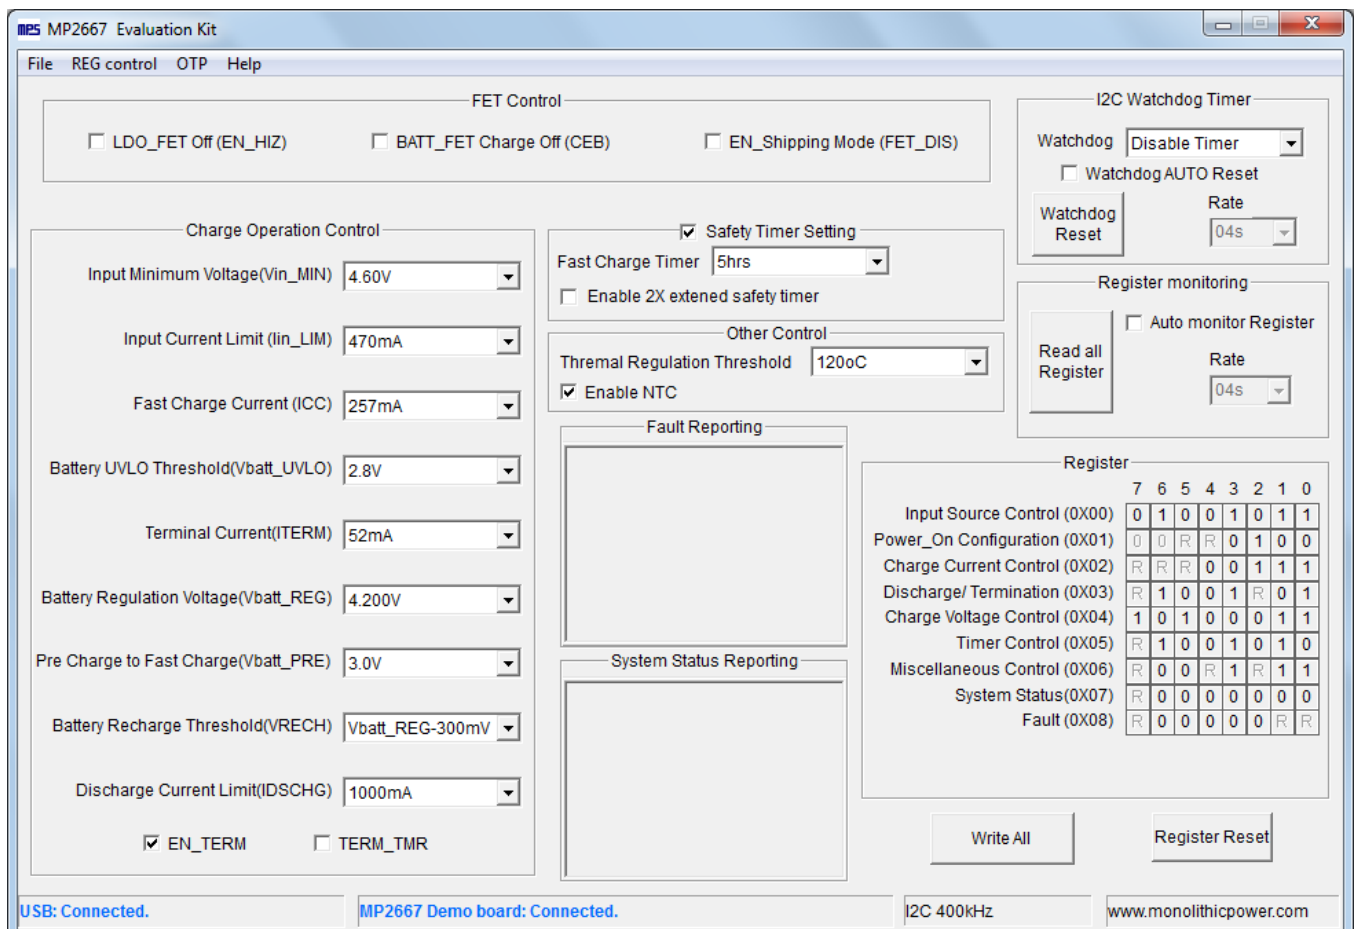

Figure 7: MP2667 evaluation interface
5) Turn on the computer. Launch the MP2667 evaluation software. The main window of the software is shown in Figure 7.